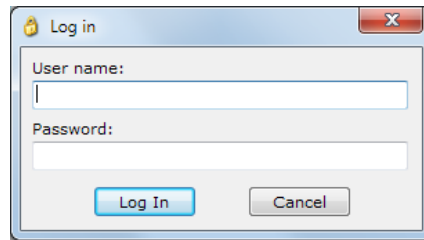

Figure 50-1. Login Screen
1. Use the Settings Explorer in BESTCOMSP*lus* to select Username Setup under General Settings, Device Security Setup. The Login dialog box appears. See Figure 50-1. An administrator access level is required to set up usernames and passwords.
2. The Login dialog box pops up. See Figure 50-1. An administrator access level is required to set up port access. Enter the username and password of the administrator and then click the Log In button. The default administrator username is “**A**” and the default Password is “**A**”.